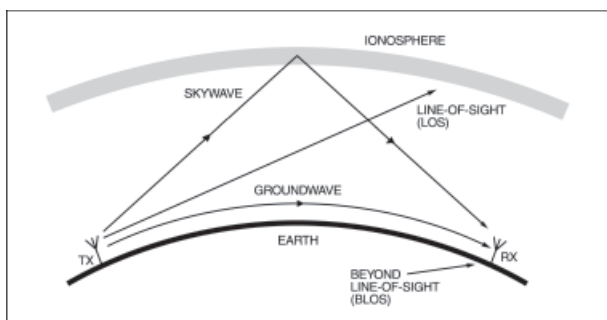

Fig.10.8. How radio signals propagate.
**LOS** means *optical* line-of-sight, i.e. the straight line distance. In general, the higher the frequency the less the signal gets "bent" over the earth and the more LOS it is (see Fig.10.8). This is why microwave transmitters and receivers must be visible to each other, whereas we can receive VHF signals from transmitters over the horizon. Let's look at some bands: